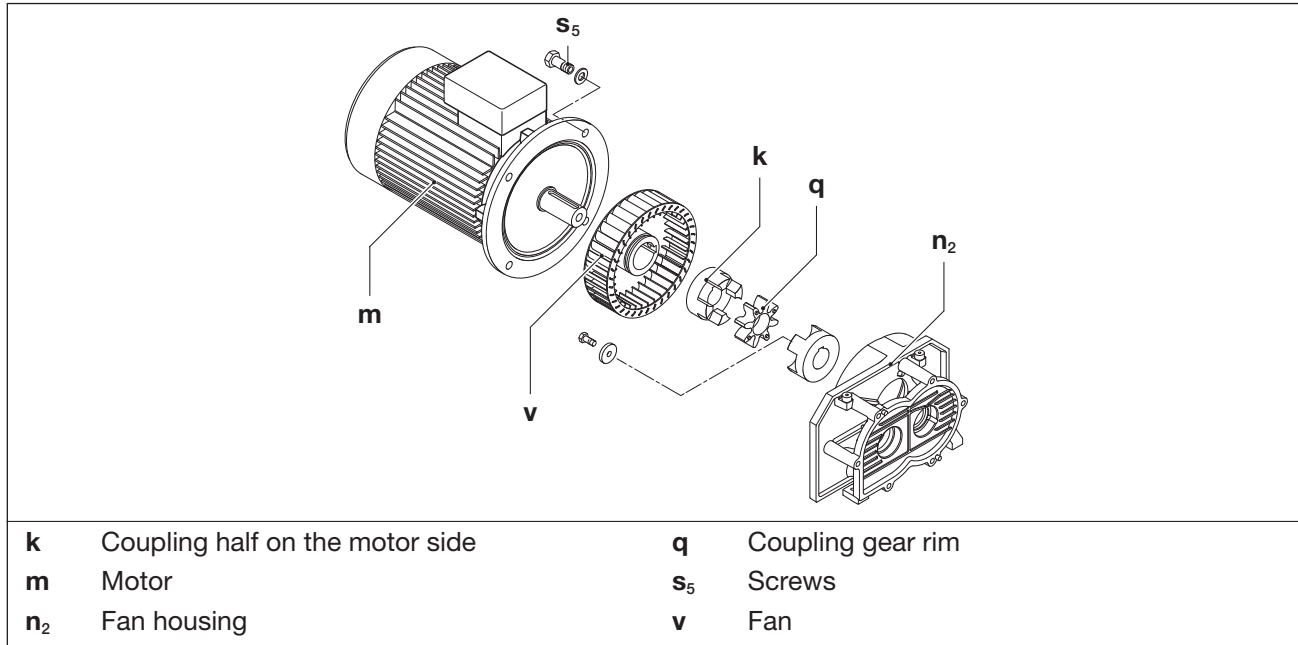

Fig. 9 Coupling
The clutch spider (Fig. 9/q) is subject to wear and must be checked regularly (at least once a year). The fan (Fig. 9/v) should also be checked for damage from time to time.
- Hook the motor (Fig. 9/m) in the eyebolts and lift it by means of lifting gear. If no eyebolts exist, suspend the Motor with round loops.
- Release the screws (Fig. 9/s5) on the motor flange and axially pull the motor with the half of the coupling on the motor side (Fig. 9/k) off the fan housing (Fig. 9/n2).
- Check the sprocket (Fig. 9/q). If the sprocket is damaged or worn, replace it.
- Check the fan (Fig. 9/v) and replace it, if necessary.
- Axially push on the gear rim and motor with coupling half on the motor side again and fix to the motor flange using the screws (Fig. 9/s5). Tightening torque: 84 Nm